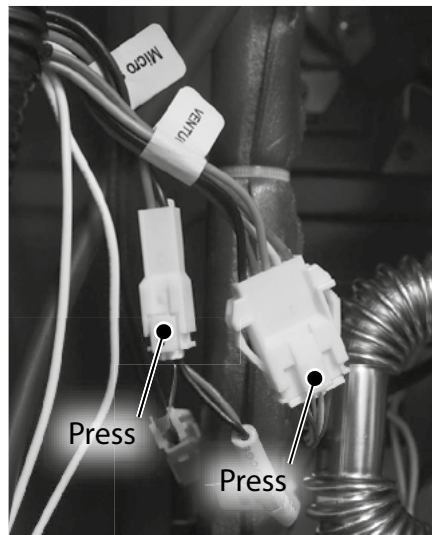

Figure 8 - Locate venturi wire harnesses
- 10** Locate the venturi wires (2x) and disconnect them as shown in Figure 8. Wires are labeled "Venturi" and "Micro Switch." These wires are connected at and run through the black cable conduit located on the left side of the water heater cabinet.